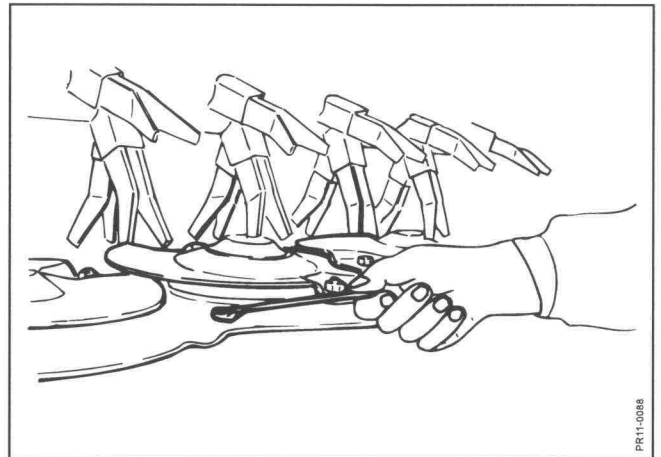

Fig. 6-5
- Fig. 6-5** Bolts at stone protectors and shear bar must be checked at regular intervals.